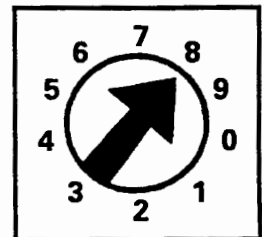

Figure 2-5
5. Make sure the SW1 switch of the new control board is in the same position as on the old control board. See Figure 2-5 for position of SW1 (machine type selection).